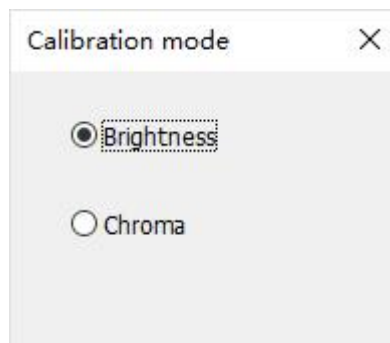

Fig.3-84 Available calibration modes
- **Settings...:** Click **Settings...** to bring up a pop-up window where you can enable or disable the option **Control LED display via USB (if sender supports)**. See Figure 3-84.
Click **Switch** to choose a calibration mode. Available options include: **Brightness** and **Chroma**. See Figure 3-84.